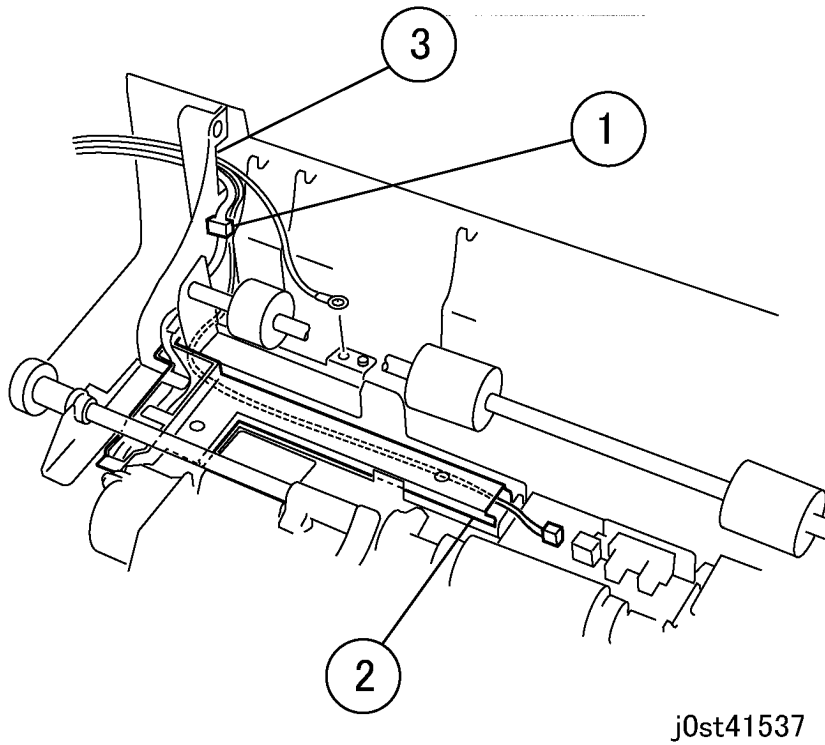

Figure 6 Removing the Wire Harness
2. Remove the Topping Screw (1).
4. Remove the Tapping Screw (2).
8. Remove the Wire Harness from the Top Cover. (Figure 6)